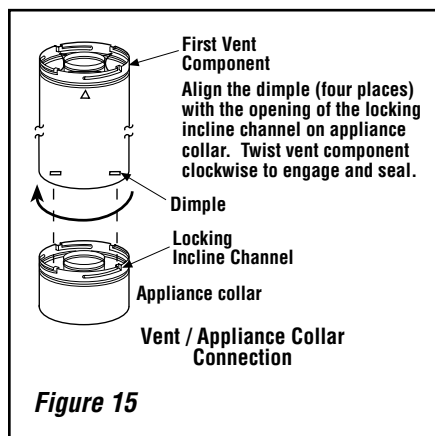

Figure 15
B. Attach vent components to appliance - Secure Vent SV4.5 direct vent system components are unitized concentric pipe components featuring positive twist lock connections (see *Figure 15*).
To attach a vent component to the appliance collar, align the dimpled end over the collar, adjusting the radial alignment until the four locking dimples are aligned with the inlet of the four inclined channels on the collar (refer to *Figure 15*).
Secure Vent SV4.5 direct vent system components are unitized concentric pipe components featuring positive twist lock connection, (refer to **Figures 15 and 16 on Page 14**). All of the appliances covered in this document are fitted with collars having locking inclined channels. The dimpled end of the vent components fit over the appliance collar to create the positive twist lock connection.
D. Attach vent components to appliance - To attach a vent component to the appliance collar, align the dimpled end over the collar, adjusting the radial alignment until the four locking dimples are aligned with the inlets of the four incline channels on the collar (refer to **Figure 15 on Page 14**).